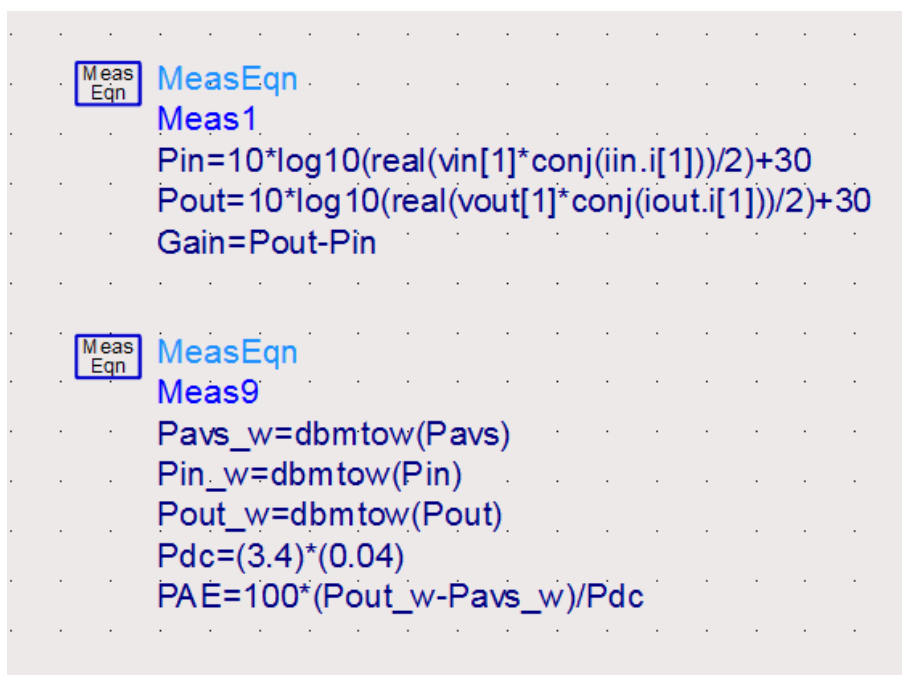

Figure 3: Necessary Equations for HB Simulation
8. Add equations as shown in Figure 3.